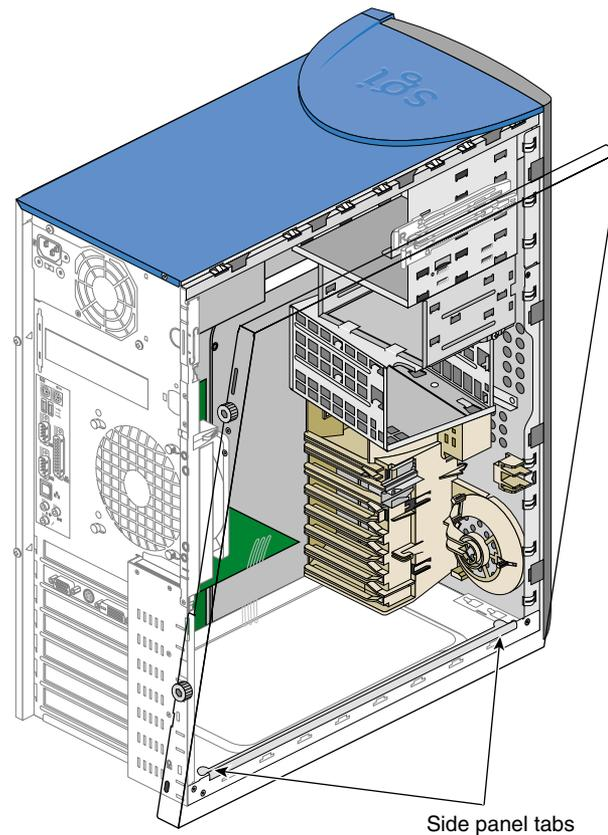

Figure 2-32 Placing Side Panel onto Lower Chassis Rail
- Slide the side panel toward the rear of the system, until the rear tab hits the rear of the chassis and the side panel cannot be moved any farther. Figure 2-32 illustrates the procedure.